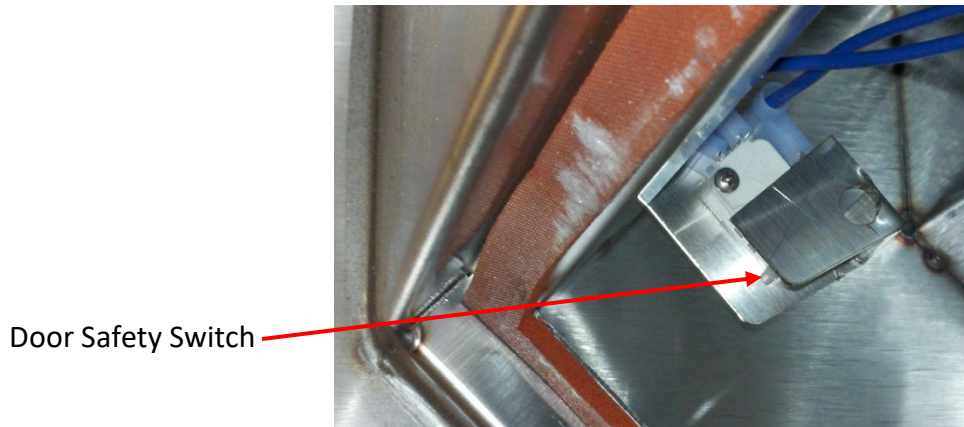

Figure 6-33-1
3. Push and hold in the Door Safety Switch (Refer to Figure 6-33-1) and observe the Ventilation Fans operating. If operating, the test is complete and the Access Door can be closed. If not operating, conduct an electrical test at the connection points for voltage. If there is voltage, the Ventilation Fan is defective and must be replaced.
23. Push and hold in the Door Safety Switch (Refer to Figure 6-33-1) and observe the fans operating. If operating correctly the test is complete. If the fans are not operating, troubleshoot and correct the problem and test again.